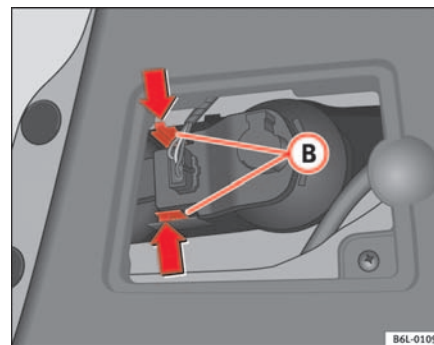

Fig. 152 Rear light on tailgate
- Press the tabs (B) ⇒ page 211, fig. 152 of the lamp holder and remove lampholder.